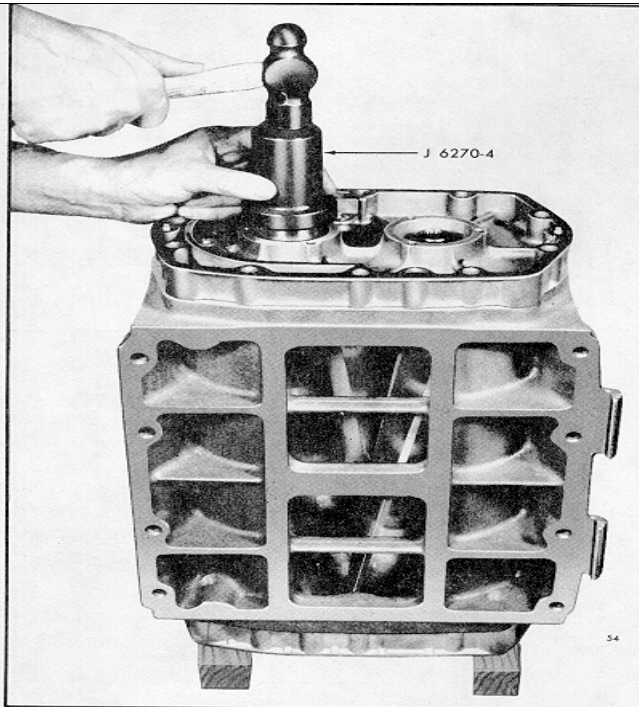
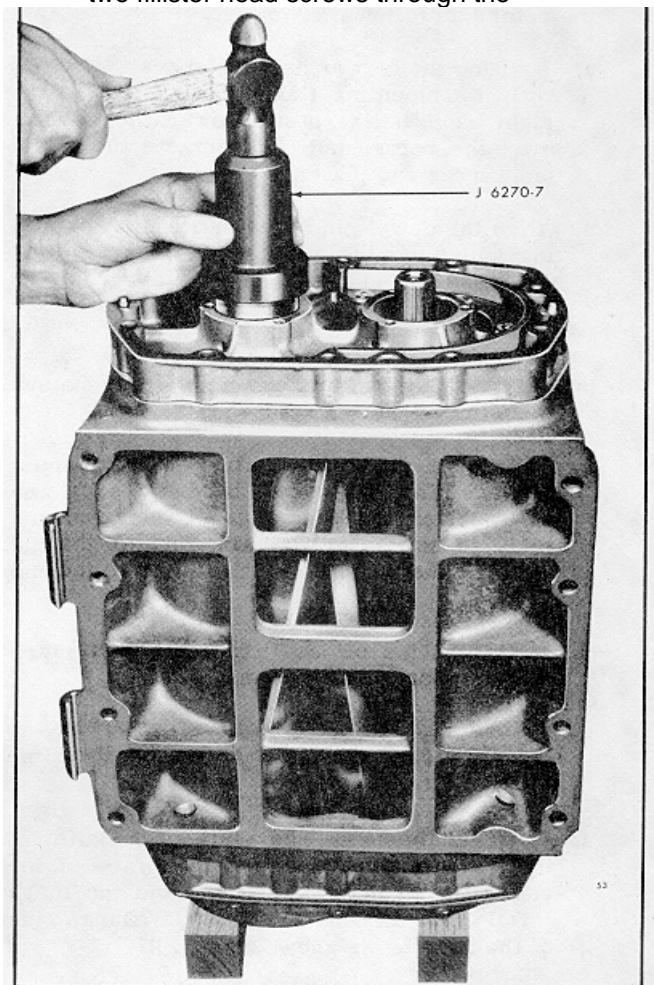

Fig. 22 - Installing Roller Bearing on Rotor Shaft and in Front End Plate
Fig. 23 - Installing Ball Bearing on Rotor Shaft and in Rear End Plate
- b. Place installer J 6270-4 on top of the bearing and tap the bearing on the shaft and into the front end plate as shown in Fig. 22.
3. Affix a new gasket (32) to the blower front end plate cover (38).
- a. Reverse the position of the blower housing on the two wood blocks (Fig. 23).
- d. Place installer J6270-7 on top of the bearing and tap the bearing straight on the shaft and into the rear end plate as shown in Fig. 23.